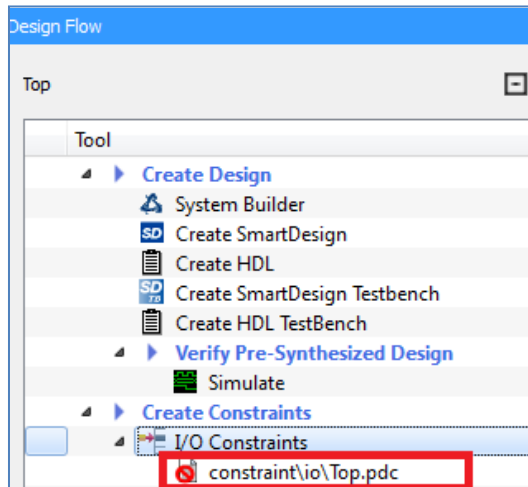

Figure 36 PDC Constraint File in the Libero SoC Project
- The file is visible under **I/O Constraints** and Create Constraints, as shown in Figure 36.